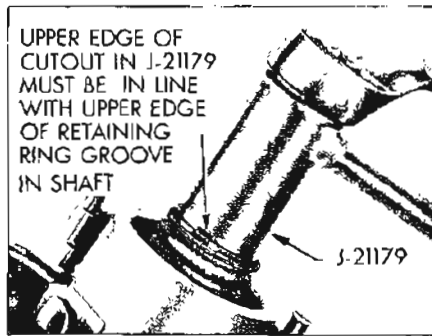

Figure 8-91—Compressing Preload Spacer
13. Using the #2 Truarc Pliers J-4880, install the retainer ring on upper shaft. Place Installer J-21179 with cut out or slot on retainer ring as shown in Figure 8-91. Install the steering shaft nut and tighten until the cut out in J-21179 is in line with the upper edge of the retainer ring groove in shaft. See Figure 8-91. Remove nut and J-21179 and allow ring to seat in groove in shaft.